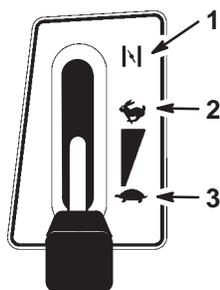

Figure 9
5. Move the throttle lever to “CHOKE” (Fig. 9).
- After the engine starts, slowly move the throttle lever to “FAST” (Fig. 9). If the engine stalls or hesitates, move the throttle lever back to “CHOKE” for a few seconds. Then move the throttle lever to “FAST.” Repeat this as required.
- Move the throttle lever to “FAST” (Fig. 9).